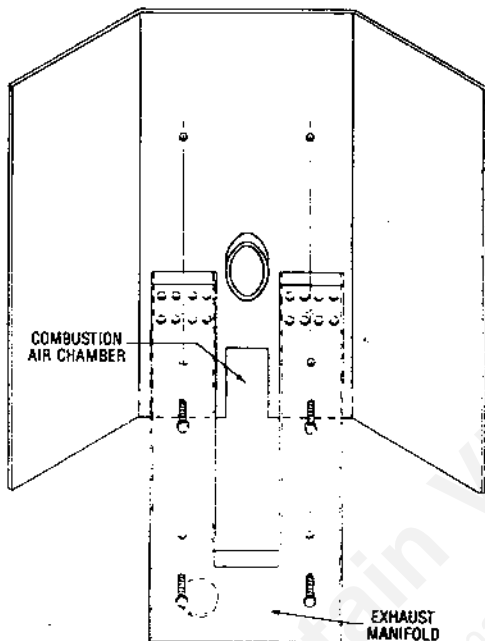

FIGURE 9
- Remove burn pot and ash pan. On P32 remove firebox baffle (see Section 2.334). Use $\frac{3}{8}$ " wrench to remove four bolts (see Figure 9). Pull off manifold.